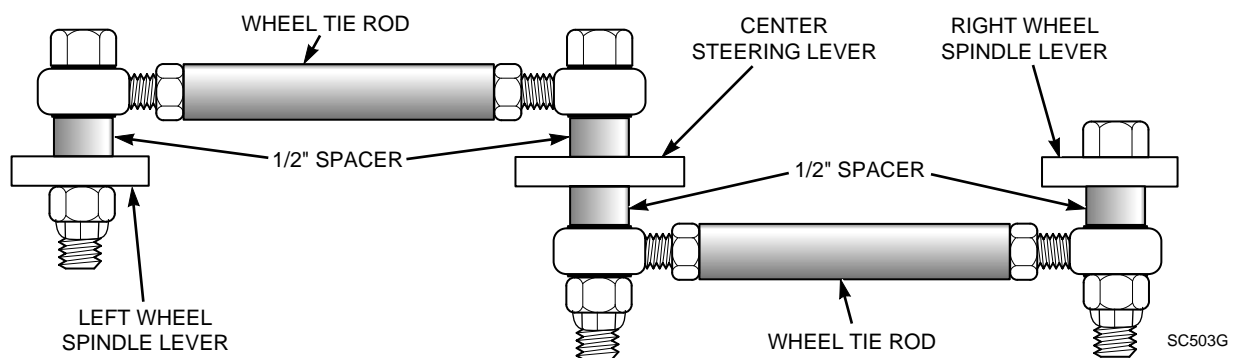

Figure 2
11. Tighten the (4) four jam nuts on the ball joints against the tie rod ends to prevent turning of the ball joints on the tie rods.
12. Bolt one end of a wheel tie rod above the lever on the left wheel spindle. Place a 1/2" ball joint spacer between the ball joint and wheel spindle lever. Secure using a 1/2-13 x 2" bolt and a 1/2-13 elastic stop nut. (See figure 2)
13. Bolt one end of the other wheel tie rod below the lever on the right wheel spindle. Place a 1/2" ball joint spacer between the ball joint and wheel spindle lever. Secure using a 1/2-13 x 2" bolt and a 1/2-13 elastic stop nut. (See figure 2)
14. Place the other end of the tie rod coming from the left wheel above the larger lever of the steering bellcrank located in the center of the sulky frame. Place the other end of the tie rod coming from the right wheel below the larger lever of the steering bellcrank. Place (2) two 1/2" ball joint spacers between the (2) two ball joints and the steering bellcrank lever. Secure using a 1/2-13 x 3 1/4" bolt and a 1/2-13 elastic stop nut. (See figure 2)